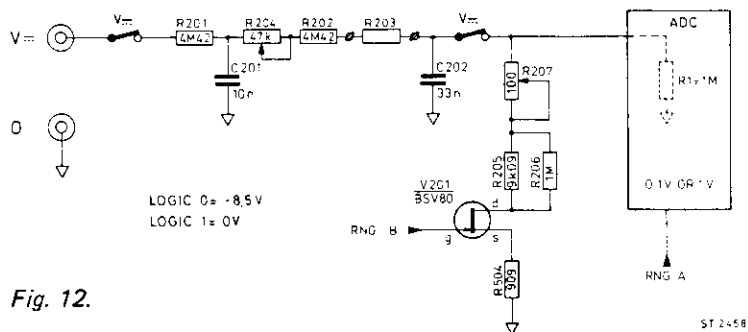

Fig. 12.
3.3.2.1. Dc voltage measurements (Fig. 12)
The input circuit for d.c. voltage measurements is shown in figure 12.